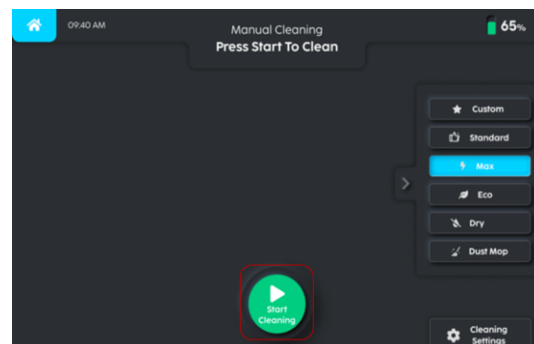

FIGURE 5-29
4. After selecting your settings select the 'START CLEANING' button to start cleaning (Fig. 5-29).